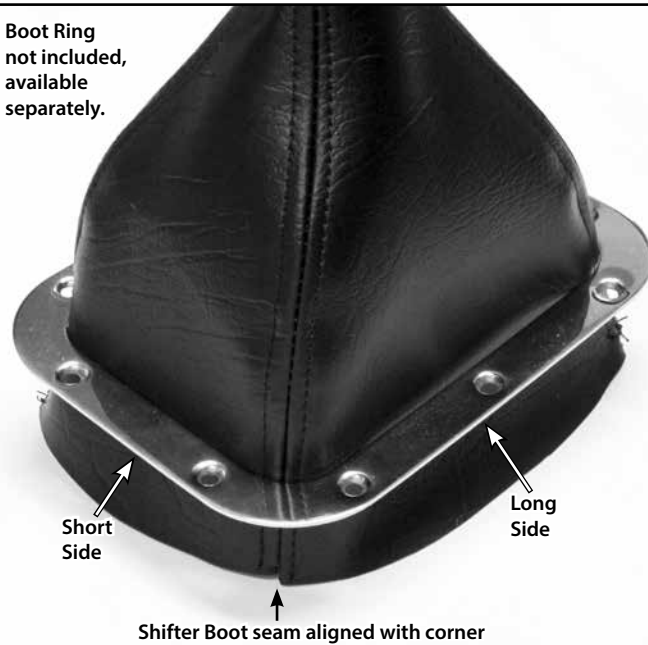

Fig. 4
Step 4: Rotate the Boot so that the seams are where you want them. On a rectangular Boot, make sure the seams in the Boot will line up with the corners of the Boot Ring. Note that the rectangular Boot has long and short sides, just like the Boot Ring. **Fig. 4**